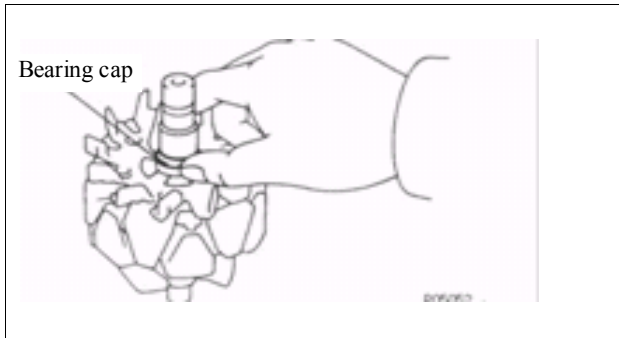

Figure 432
- Push in the bearing cap with a special tool (see Fig. 432).